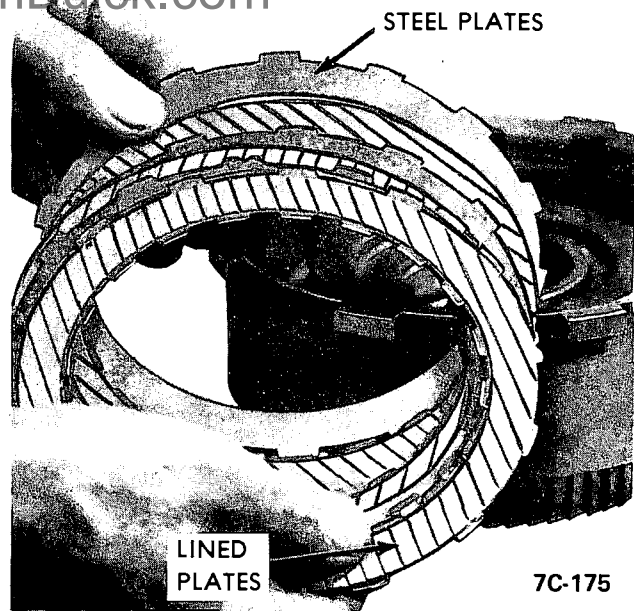

Figure 7C-110
8. Install intermediate clutch overrun outer race. See Figure 7C-112.